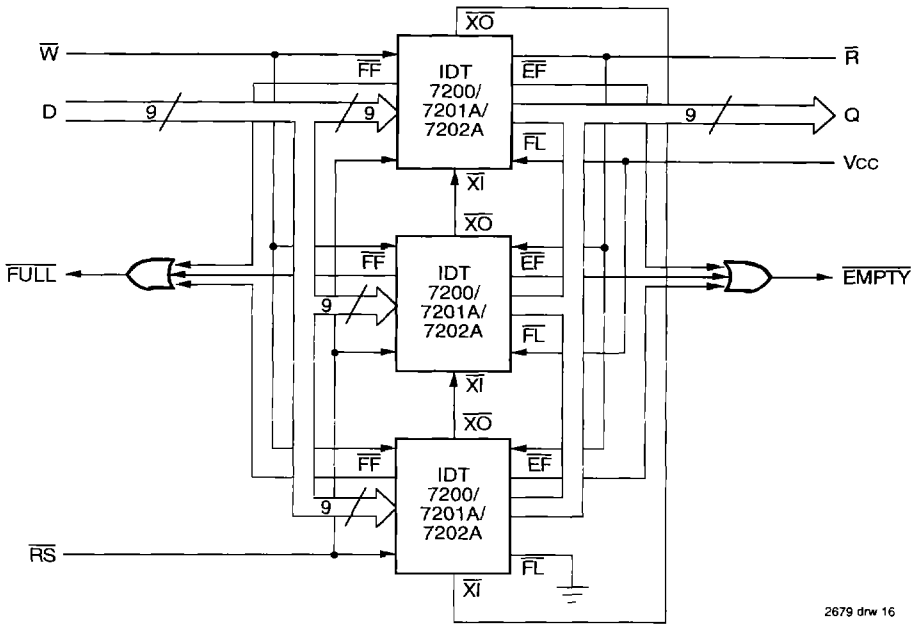

Figure 14. Block Diagram of 768 x 9/1536 x 9/3072 x 9 FIFO Memory (Depth Expansion)
The IDT7200/7201A/7202A can easily be adapted to applications when the requirements are for greater than 256/512/1024 words. Figure 14 demonstrates Depth Expansion using three IDT7200/7201A/7202As. Any depth can be attained by adding additional IDT7200/7201A/7202As. The IDT7200/7201A/7202A operates in the Depth Expansion mode when the following conditions are met:
3. The Expansion Out (\overline{XO}) pin of each device must be tied to the Expansion In ($\overline{X_i}$) pin of the next device. See Figure 14.
4. External logic is needed to generate a composite Full Flag (\overline{FF}) and Empty Flag (\overline{EF}). This requires the ORing of all \overline{EF} s and ORing of all \overline{FF} s (i.e. all must be set to generate the correct composite \overline{FF} or \overline{EF}). See Figure 14.
1. XI-bar is connected to XI-bar of previous device. See Figure 14. RS-bar = Reset Input, FL/RT-bar = First Load/Retransmit, EF-bar = Empty Flag Output, FF-bar = Flag Full Output, XI-bar = Expansion Input, HF-bar = Half-Full Flag Output
1. For depth expansion block see section on Depth Expansion and Figure 14.